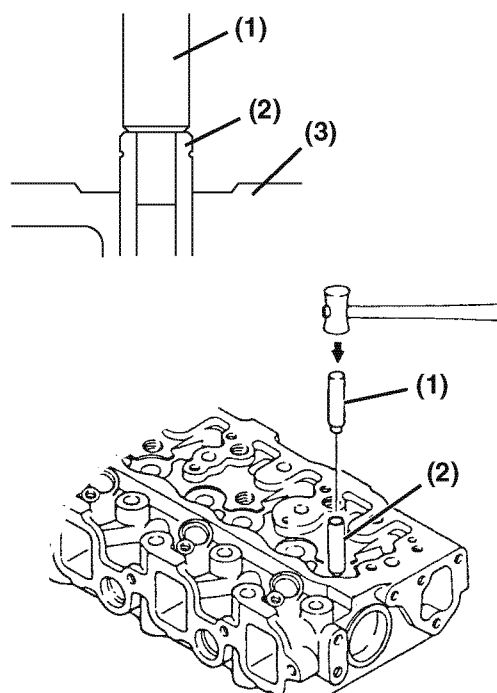

Figure 5-17
- Using the insertion tool (**Figure 5-17, (1)**), tap the new guide (**Figure 5-17, (2)**) into place with a mallet.